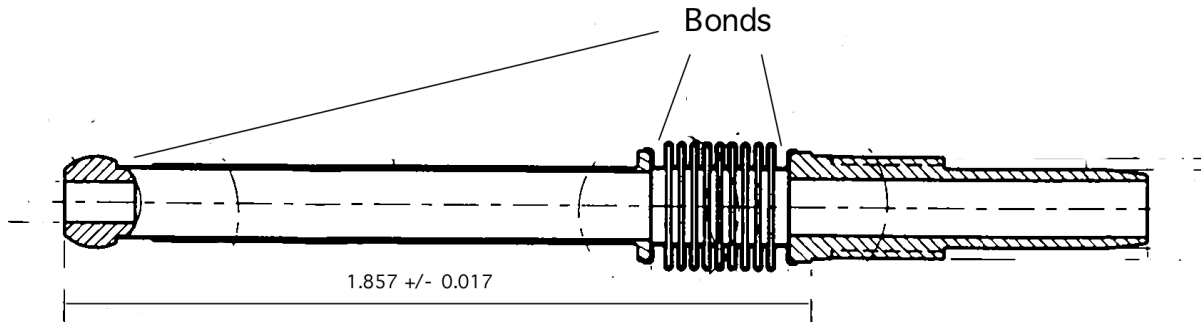

Figure 2. Tubing Assembly, Spinup Inlet
This task module takes place on the laminar flow bench in Stanford's Class 1000 cleanroom in the HEPL building. It assumes the Tubing Assembly parts have been cleaned, magnetically screened, and released. The Tubing Assembly, Spinup Inlet, 22886-201, is shown in Figure 2.
- 5.3.1 After curing, place each Inlet Tube Assembly in the Inlet Assembly Verification Fixture for verifying the distance between the end of the spherical ball and the interface with the Plumbing Retainer (see Figure 2). This distance is required to be 1.857 +/- 0.017 inch.
- 6.5.1 After curing, place each Exhaust Tube Assembly in the Exhaust Assembly Verification Fixture for verifying the distance between the end of the spherical ball and the interface with the Plumbing Retainer (see Figure 2). This distance is required to be 2.362 +/- 0.022 inch.